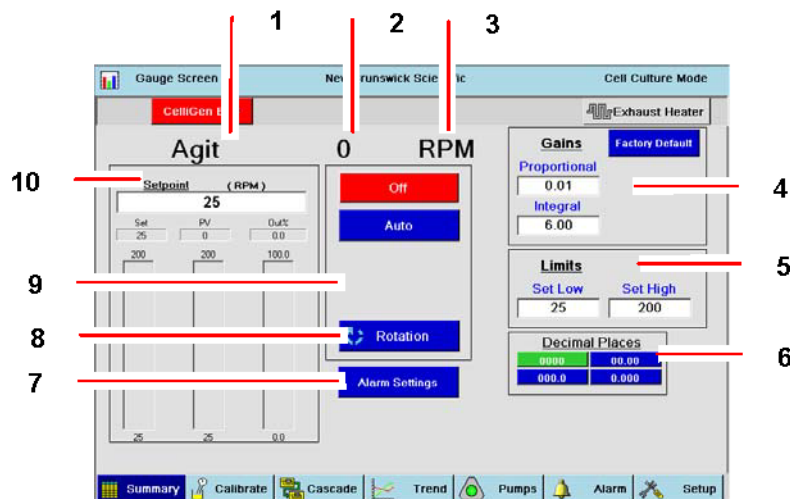

Fig. 15: Sample GAUGE Screen
- Touch the screen inside the appropriate blue box in the LoopName column in the SUMMARY screen. Your touch will open that loop's GAUGE screen (see Fig. 15 on p. 34).